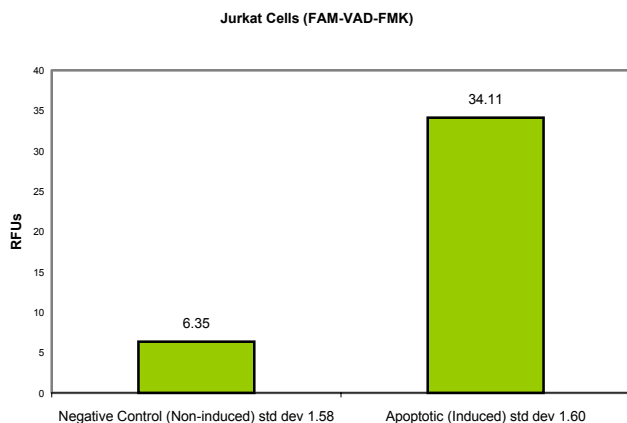

Figure 1. FAM-VAD-FMK fluorometric detection of active caspases in Jurkat cells (SD of 6 wells).
4. An example of differential FLICA fluorescence intensities in induced versus non-induced Jurkat cells is shown in Figure 1 using a 96-well fluorescence plate reader.
In Figure 1, cells were either treated with DMSO (negative, non-induced cells – bar on the left side of the graph) or with staurosporine (apoptotic, induced cells - bar on the right side of the graph) for 2 hours at 37°C. Cells were labeled with FAM-VAD-FMK solution for 60 minutes at 37°C. Samples were read on a 96-well fluorescence plate reader (Molecular Devices, Gemini XS) set at 490 nm excitation and 520 nm emission using a 495 nm cut-off filter. As the caspases became more active, indicating apoptosis, the amount of green fluorescence increased by over 500% in the induced Jurkat cells.